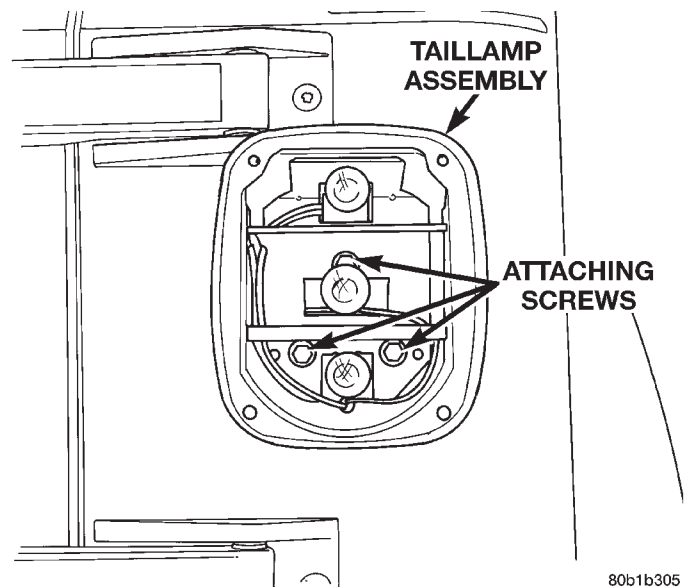

Fig. 7 Tail Lamp Housing
- (2) Remove the tail lamp housing attaching bolts (Fig. 7).
- (3) Separate the lamp housing from the body.
- (4) Disconnect the tail lamp electrical connector and remove tail lamp housing.